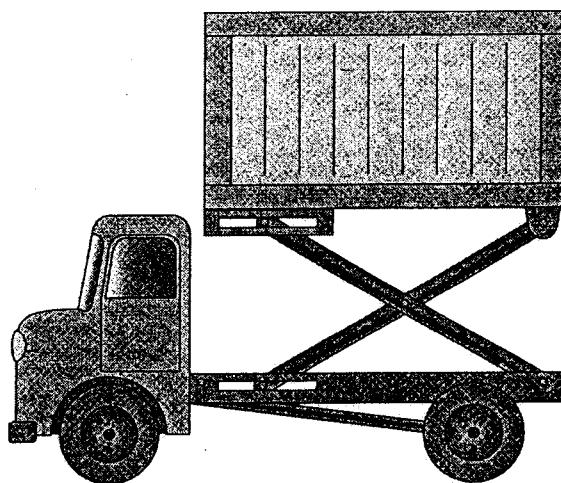

Figure Q4[a]
- Q4. [a]** A sketch of a truck used to deliver supplies to passenger jets is shown in Figure Q4[a].
- [b]** The mechanism shown in Figure Q4[b] is used to feed cartons to a labeling machine and, at the same time, to prevent the stored cartons from moving down. At full speed, the driveshaft rotates clockwise with an angular velocity of 250 rpm. At the instant shown,